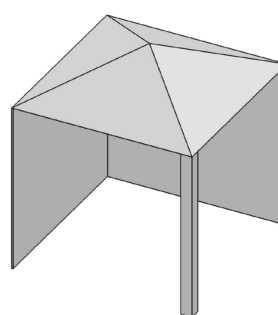
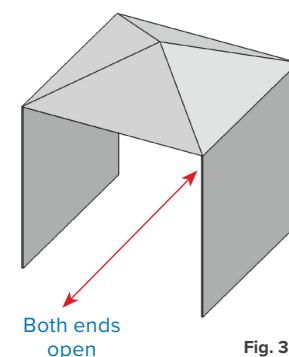

Fig. 2
Fig. 3
- » The sidewalls may be parallel, as in a breezeway, or at right angles to each other. (Fig. 2 & Fig. 3)